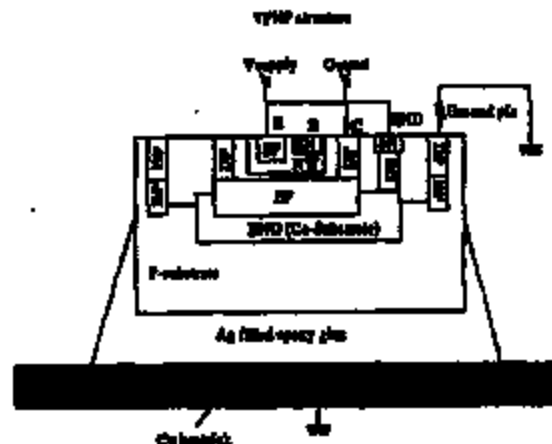

Fig. 3: Schematic view of a cross section of the complementary bipolar IC showing the V-FNP transistor as well as the Cu-beastink and Ag-filled epoxy glue.
In this paper we will show that this packaging method gives rise to a new latchup failure mechanism where latchup is not induced by triggering one of the known thyristors at the top side of the die but by triggering of an unexpectedly present parasitic thyristor located between the frontside and the (n-type) Ag-filled glue contacting the backside of the die, see fig. 3. The phenomenon will be described in more detail in the paper and options for its elimination will be presented. Consequences for qualification testing will be discussed.
The power ICs in our study are fabricated in a 2  $\mu\text{m}$  double metal complementary bipolar process featuring both V-NPN and V-FNP power transistors. The transistors are built in a 10  $\mu\text{m}$  thick, 2  $\Omega\text{cm}$  n-type epi layer on top of a 375  $\mu\text{m}$  thick 4  $\Omega\text{cm}$  p-substrate. Isolation between different n-epi islands is achieved by deep-P/beried-P (DP/BP) junction isolation. The base of the V-FNP transistor is formed by a  $N_{\text{base}}$  (NW) diffusion in the n-epi layer and the transistor isolated from the p' substrate by a deep beried-N (BND) diffusion, see fig. 3. The bipolar gain  $\beta_{\text{np}}$  of the active V-FNP transistor T1 formed by the SP-(NW/n-epi)-BP diffusions, the parasitic V-FNP transistor T3 formed by the BP-BND-p'-substrate and the parasitic V-NPN transistor T2 formed by the (NW/n-epi)-BP-BND diffusions, see fig. 4, typically equal 60, 120 and 11 respectively at 25°C. At the end of the process all n-doped diffusion layers are
The ICs are subsequently packaged in a SIL-power package. Here the  $p^+$  substrate backside is attached to a Cu-heat-sink by an epoxy glue containing Ag-fillers to achieve low thermal resistance values, see fig. 3 and 5.
baised and electrons are injected into the substrate and collected by the BND-layer, see fig. 3 and 4. This causes a voltage drop across  $R_{BND}$  which forces parasitic PNP transistor T3 to switch on. A current now flows from the emitter of the V-FNP power transistor T1 to the substrate via T3, causing a voltage drop across  $R_{sub}$ . When this voltage exceeds the forward voltage of the backside diode, the parasitic NPN transistor T4 may remain conducting even when the V-FNP saturation event is over. Parasitic NPN transistor T2 then starts to operate in reverse and as a result the collector current of T4 will start to drive transistor T1 and a thyristor is being build-up.